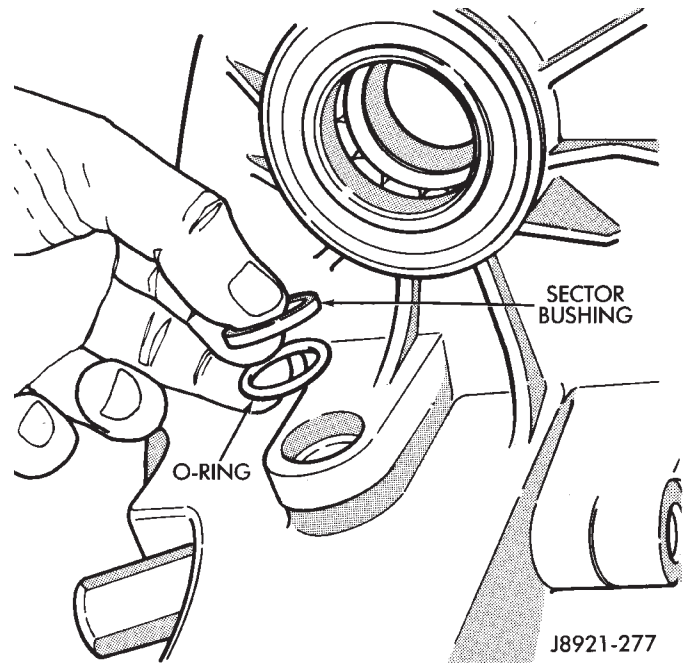

Fig. 55 Installing Sector O-Ring And Bushing
(20) Install new sector shaft O-ring and bushing (Fig. 55).